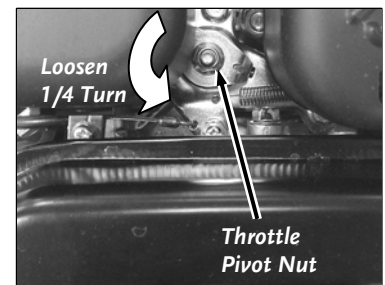

Figure 29
1. Loosen the Throttle Pivot Nut 1/4 turn counterclockwise and test the Throttle Lever (**Figure 29**). If the Throttle Lever fully returns to low idle, it is working properly. If there is still some hesitation of the Throttle Lever fully returning to low idle, turn the Throttle Pivot Nut another 1/4 turn and retest as needed.